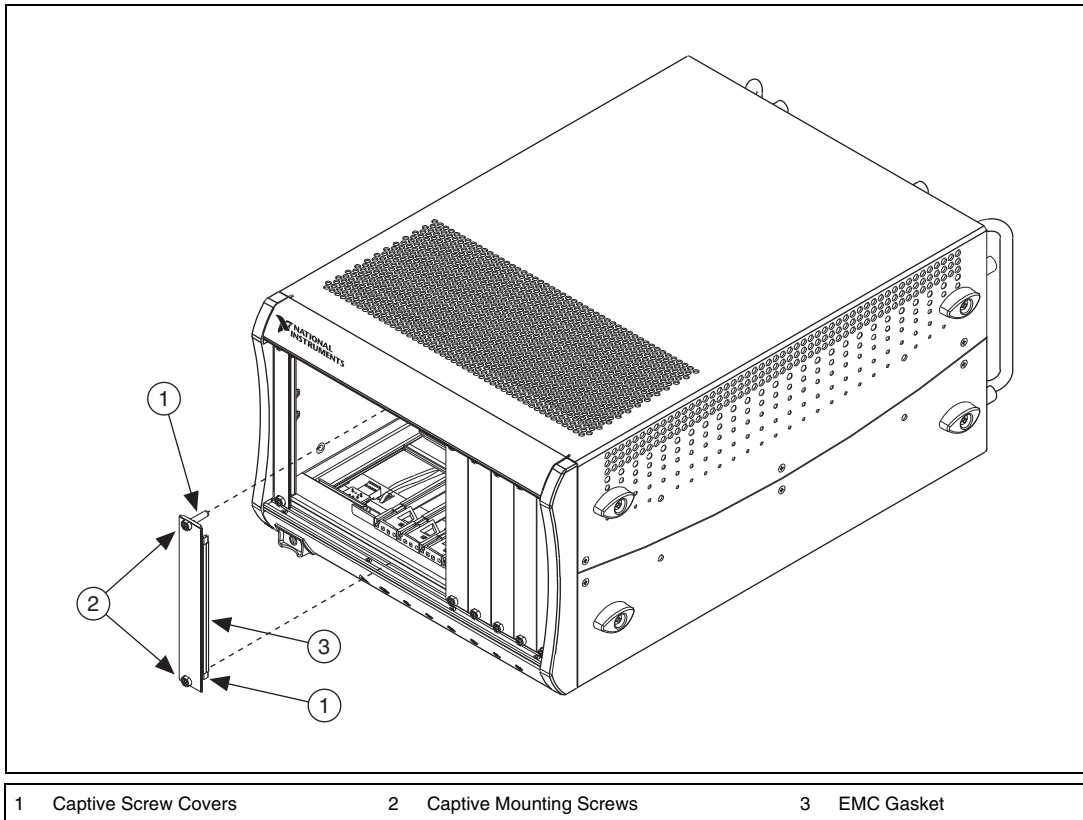

Figure 6. PXI EMC Filler Panels and Chassis
2. Install the PXI EMC filler panels by securing the captive mounting screws to the chassis, as shown in Figure 6. Make sure that the EMC gasket is on the right side of the PXI EMC filler panel.